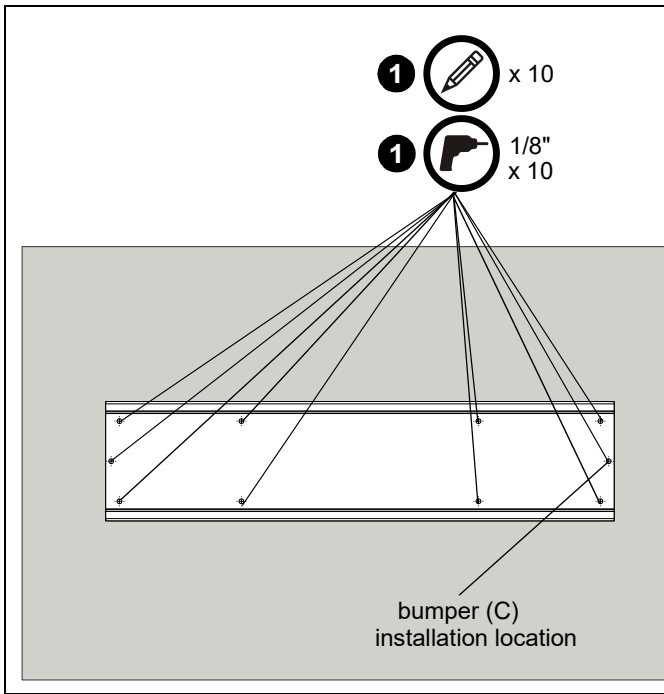

Figure 1
- Using under-desk track (B) as a template, mark and drill ten 1/8" diameter pilot holes. (See Figure 1)